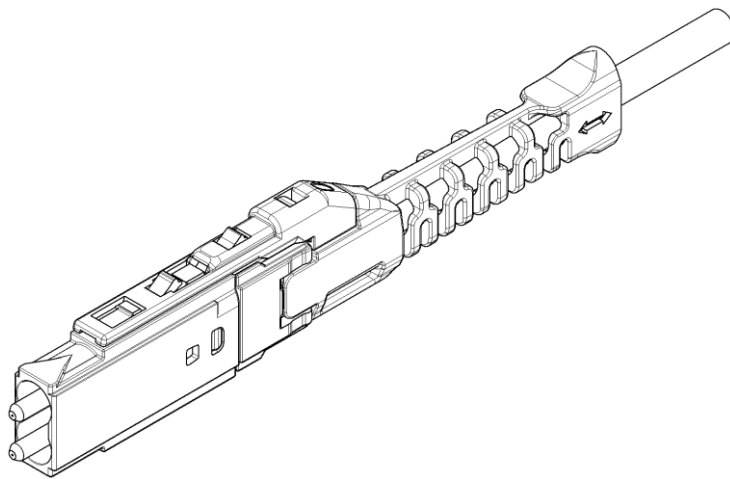

Figure 2.1: MDC Connector
The MDC connector (Figure 2.1) is a very small form factor optical connector designed to provide (4) separate two-fiber connections into a OSFP or QSFP-DD module and (2) separate two-fiber connections into a SFP-DD module. A push-pull boot allows for simple insertion (and removal) of the MDC connectors to (and from) the receptacles. The MDC connector contains (2) 1.25 mm diameter ferrules and will be installed on 2.0 mm OD (or less) optical cables.